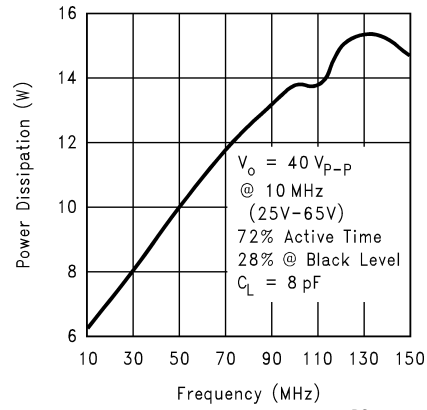

FIGURE 6. Power Dissipation vs Frequency
*Figure 6* shows the total power dissipation of the LM2412 vs. Frequency when all three channels of the device are driving an 8 pF load. Typically the active time is about 72% of the total time for one frame. Worst case power dissipation is when a one on, one off pixel is displayed over the active time of the video input. This is the condition used to measure the total power dissipation of the LM2412 at different input frequencies. *Figure 6* gives all the information a monitor designer normally needs for worst case power dissipation. However, if the designer wants to calculate the power dissipation for an active time different from 72%, this can be done using the information in *Figure 14*. The recommended input black level voltage is 1.9V. From *Figure 14*, if a 1.9V input is used for the black level, then power dissipation during the inactive video time is 2.7W. This includes both the 80V and 12V supplies.
3. Subtract the 0.8W from the power dissipation from *Figure 6*. For 100 MHz this would be 13.8 – 0.8 = 13.0W.
The LM2412 case temperature must be maintained below 100°C. If the maximum expected ambient temperature is 70°C and the maximum power dissipation is 13.8W (from *Figure 6*, 100MHz) then a maximum heat sink thermal resistance can be calculated: